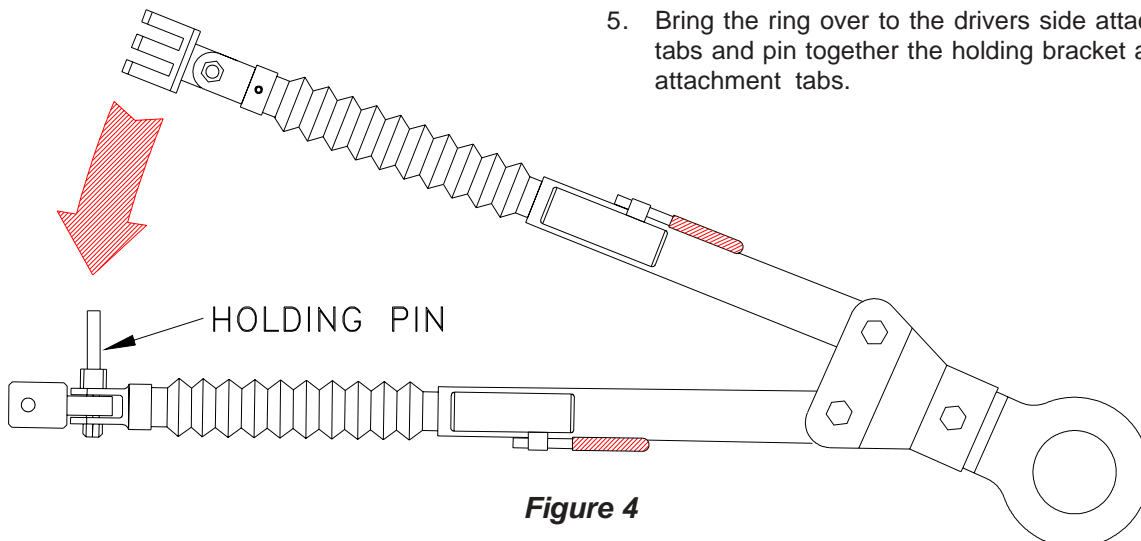

Figure 4
4. With the pintel ring removed from hitch and the leg handles unlocked, slide the tow bar forward and remove the 1/2" pin from the drivers side leg (Figure 4). Bring the leg over to the passenger side and set the triple lug onto the holding pin of the opposite leg.